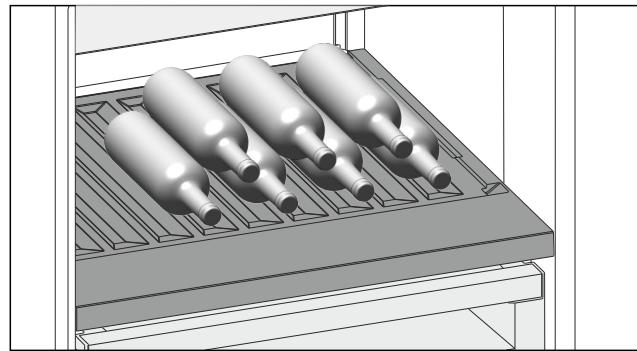

Fig. 97
- ▶ Place bottles in the back row with their bases against the back wall. (see Fig. 97)